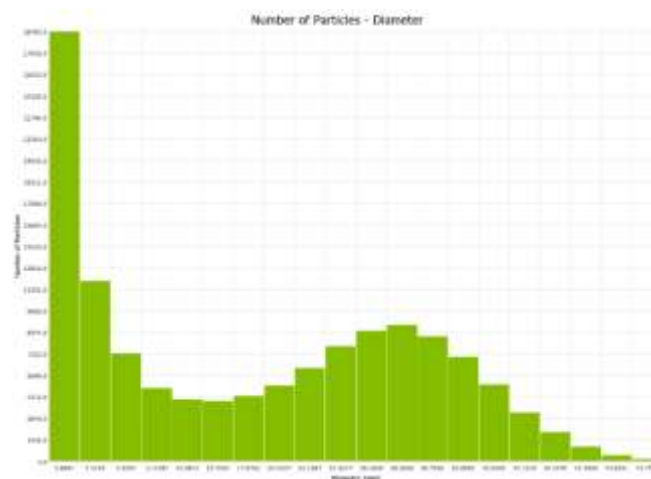
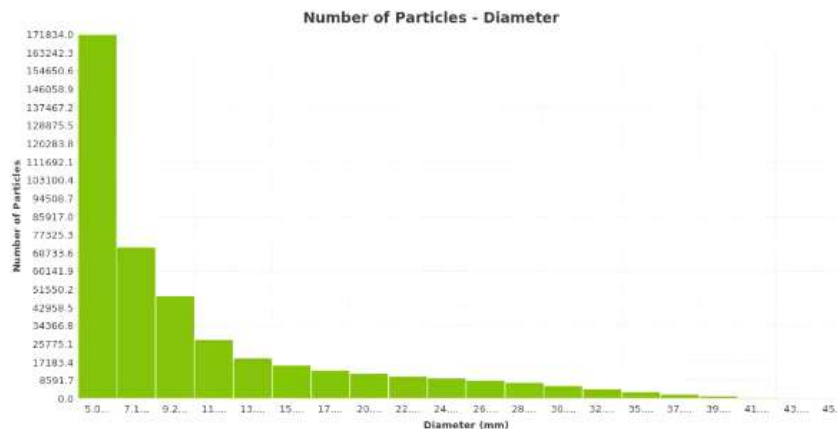

Figure 6. Particle size distribution at the beginning of the simulation.
Figure 7. Particle size distribution at the end of the simulation.
5. In the Setting tab choose the time step you are interested in visualizing the size distribution. The size distribution at the beginning (1s) and at the end of the simulation are shown in Figure 6 and Figure 7, respectively.